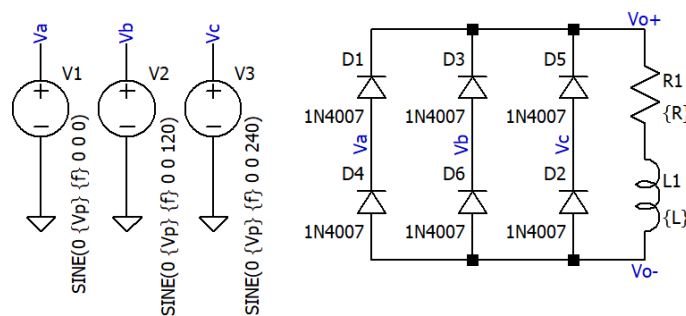

Figure 5.3 Uncontrolled 3-Phase full wave rectifier with inductive load
1. Connect the circuit as shown in Figure 5.3.